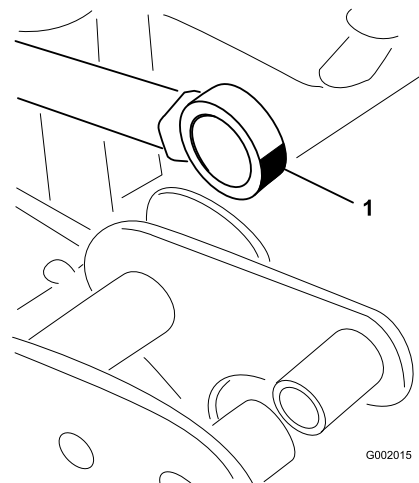

Figure 107
5. Swivel the rod-end bearing and apply grease into the bearing (Figure 107).